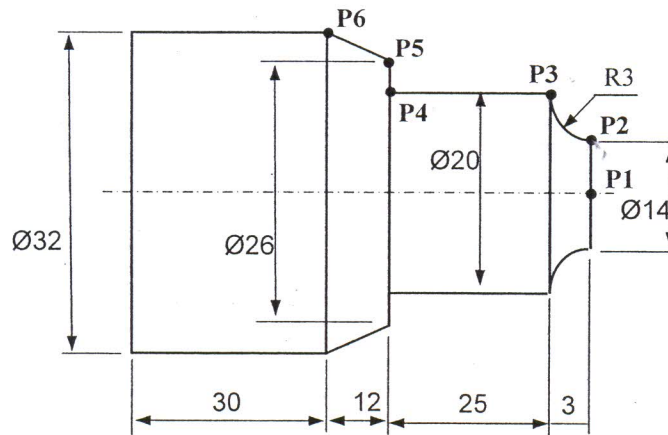

Figure 2
- (a) List the coordinate for the points P2 to P6 of the part shown in Figure 2 below by using incremental mode. Given coordinate of P1 is X=0 and Z=0.